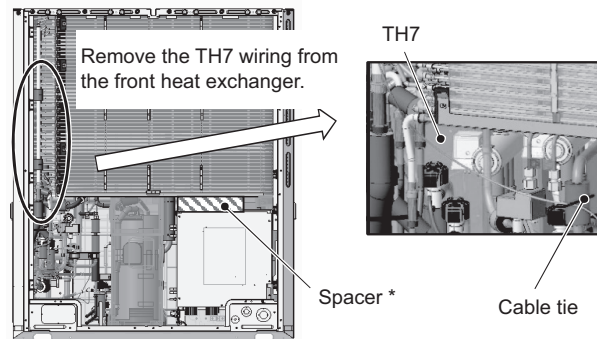

Figure 13
- (17) Remove the TH7 wiring from the heat exchanger by cutting the cable tie. (See Figure 13.)